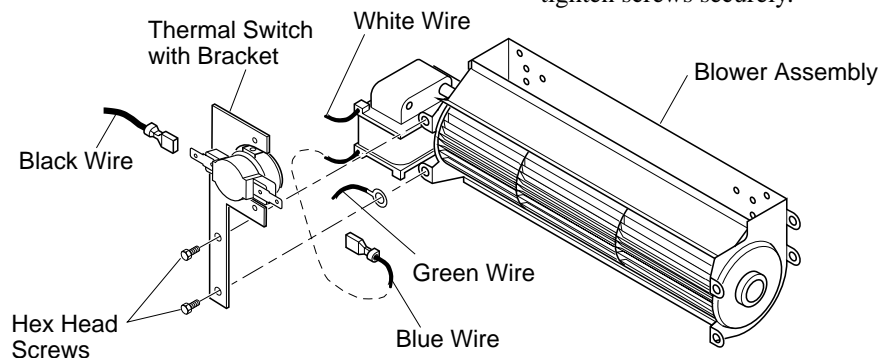

Figure 29 - Attaching Thermal Switch to CDA3620T Thermostatically Controlled Blower Accessory
1. Remove the two hex head screws on the blower assembly as shown in Figure 29.